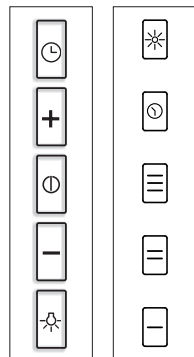

Fig.2
COMPONENTS LIST > see Fig.2
- Connect the flange **Y** of Ø150 mm (fig.2) to the discharge opening with a connecting tube. If the apartment is equipped with an external Ø120 mm air duct, apply the reduction fitting provided. **(do not carry out the above instructions for recirculating mode).**